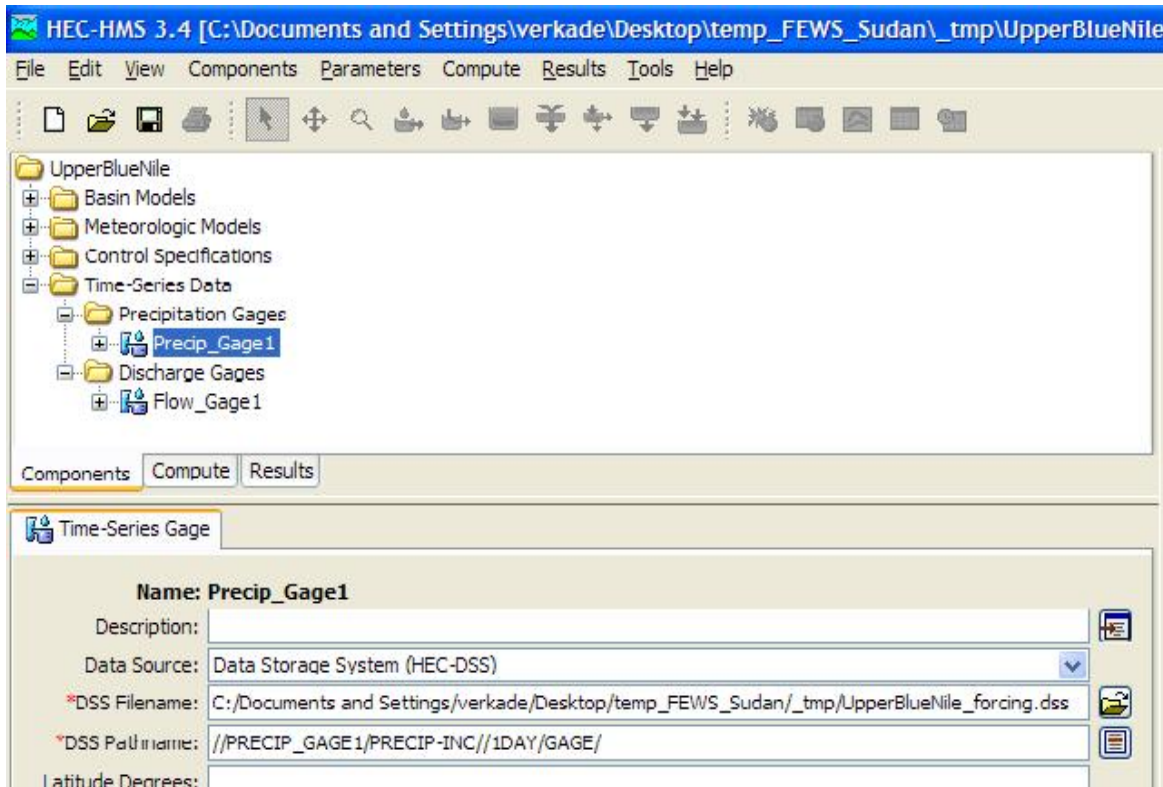
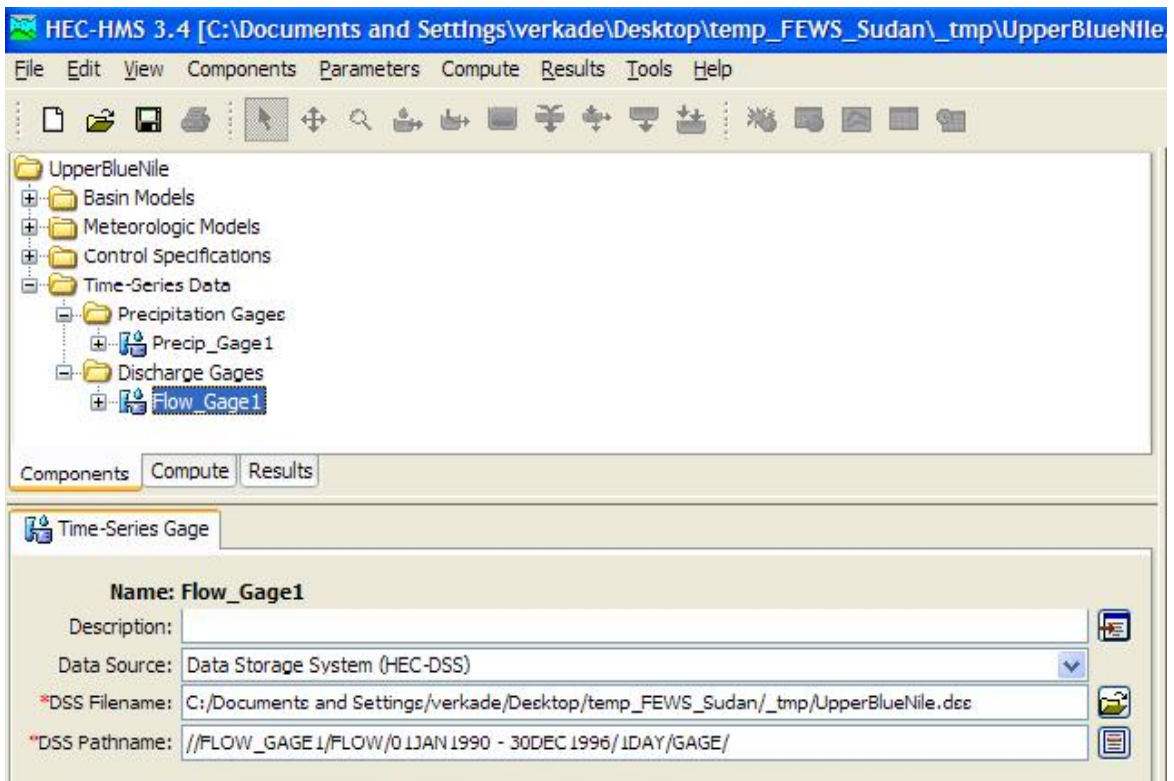

Figure 3.1 “Gage” elements in the HEC-HMS user interface
Figure 3.2 "Gage" elements in the HEC-HMS user interface
- a) From the GUI interface as shown in Figure 3.1 and Figure 3.2, by editing the name of the .dss in the field “DSS Filename” (the DSS pathname has to be left as it is)